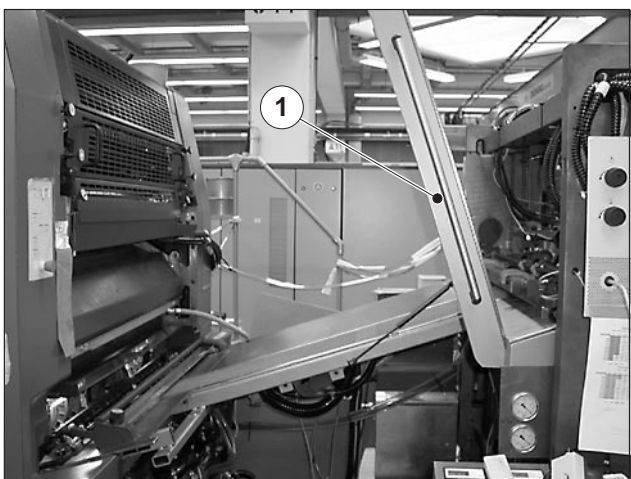

Fig. 107
16. Fold down the feed table (Fig. 107/1) on O.S.